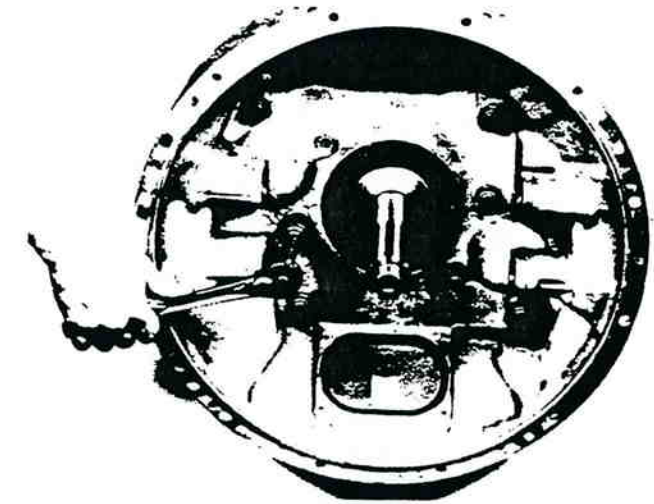

Figure 13-161. Tightening Nuts on Studs.
3. Install the six nuts on studs with washers or lockwashers and tighten to 180-190 ft. lbs. (244-257 Nm) torque (figure 13-161).